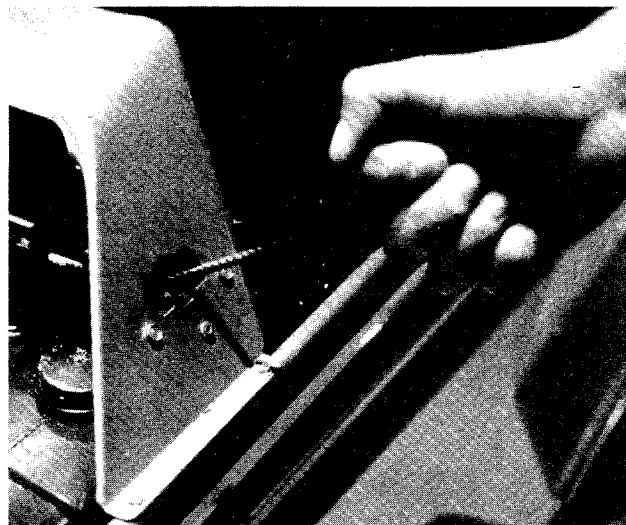

FIGURE 6. RECOIL STARTER
7. **Recoil Model.** Turn the ignition key to the ON position. Twist the recoil starter handle until it is free and pull it with a quick steady motion. After the engine starts, return the recoil starter handle. Twist it until it locks. See figure 6.